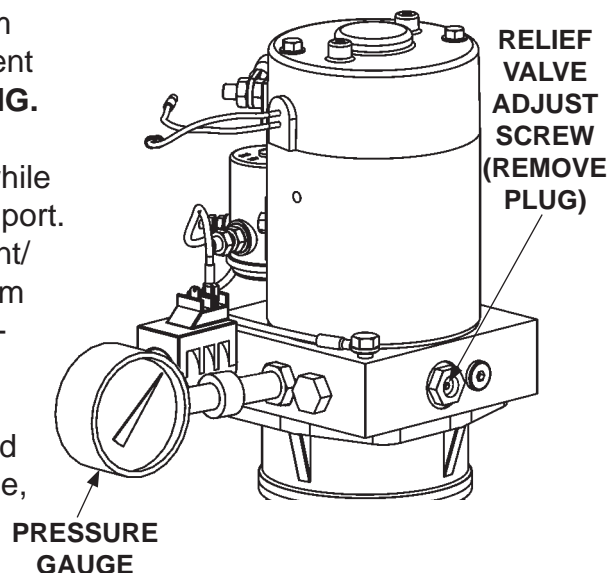

FIG. 69-2
3. With platform on the ground, remove the pressure hose and fitting from the pump and replace it with a 0-4000 PSI pressure gauge. Hold the switch in the "UP" position. Adjust the relief valve on the side of the pump until the gauge shows 3250 PSI (**FIG. 69-2**). Remove gauge and reinstall pressure hose.